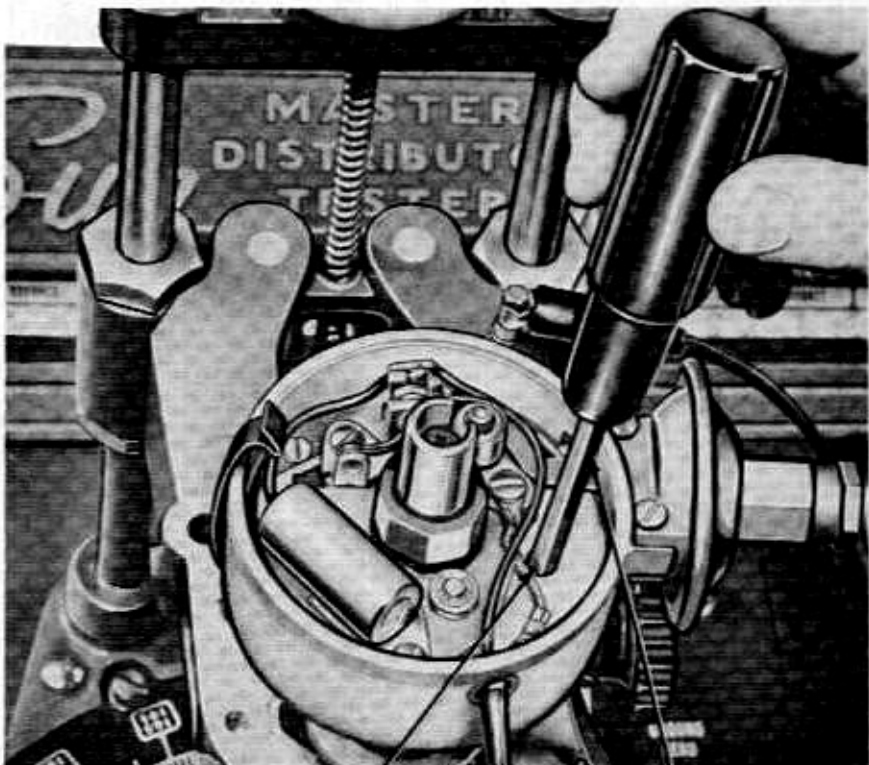

FIG. 11—Centrifugal Advance Adjustment
3. If the correct advance is not indicated at this rpm, stop the distributor and bend one spring adjustment bracket to change its tension (Fig. 11). Bend the adjustment bracket away from the distributor shaft to decrease advance (increase spring tension) and toward the shaft to increase advance (decrease spring tension). After the adjustment is made, identify the bracket.